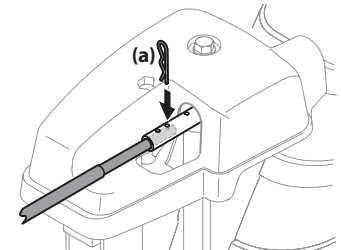

Figure 2-44
6. Push chute control rod toward the control panel until hole in rod lines up with middle hole in chute control input and insert cotter pin (a) removed in Step 1. See Figure 2-44.